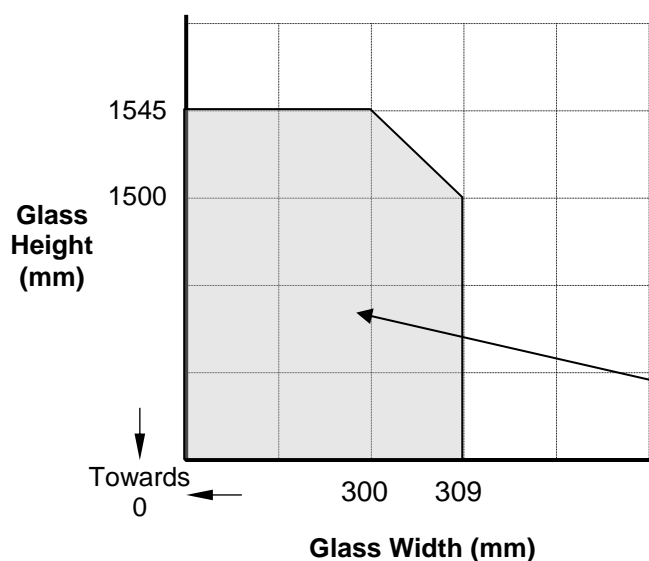

Figure 16.
8. Other CERTIFIRE approved glazing seals may be acceptable subject to the limitations within the relevant certificate. This Certificate of Approval relates to the sizes of Pyroswiss glass shown in Figure 16 above, when used in conjunction with above systems. The aspect ratio of the glass may be unlimited within these aperture dimensions.